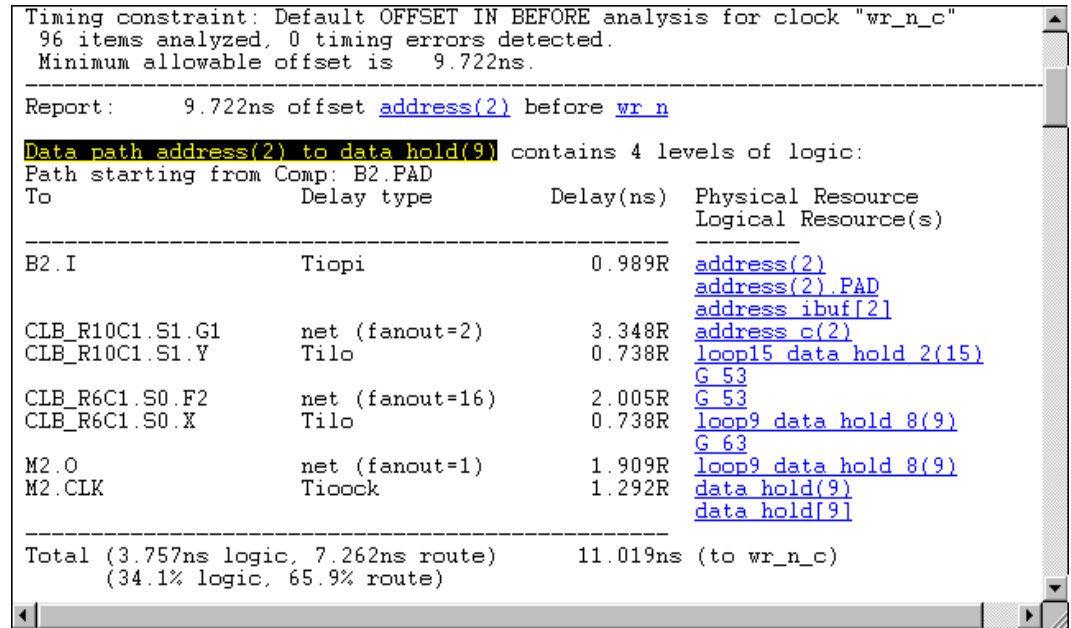

Figure 9: Path Selected to Cross Probe to Synplify Schematic Window
5. Display the XML file as described in **Displaying the Navigable Timing Report for Timing Cross Probing**, page 2. The timing report in the Timing Analyzer window will show navigable paths and instances as shown in Figure 9